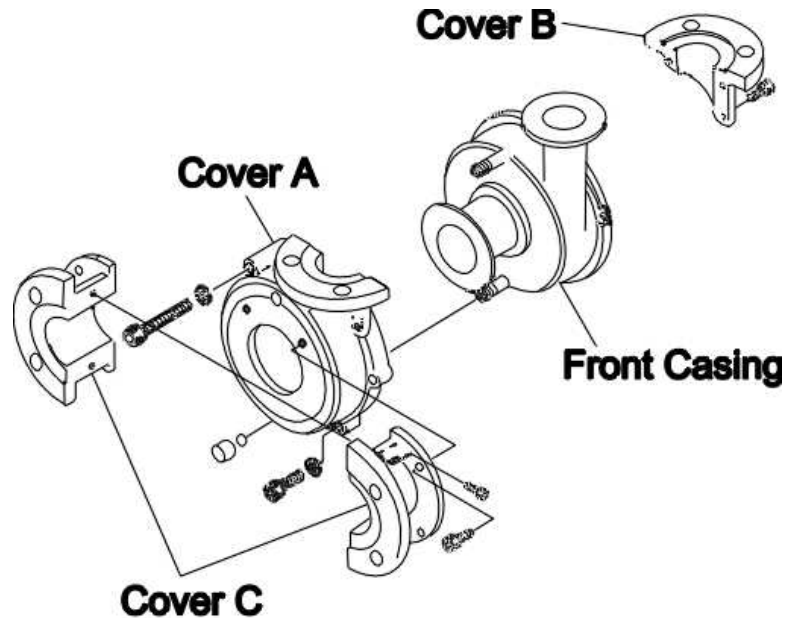

Figure 21
7. Attach and temporarily secure the two halves of Cover C (9) to Cover A (7) with the hex socket bolts (19). Tap the two parts gently in a slanted direction from the front casing liner suction port. [Fig. 21]
9. Insert gasket (10) into the vent and drain caps (14) prior to installing them.